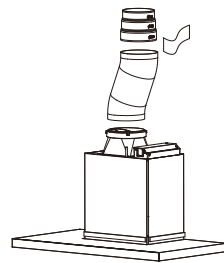

Fig. 10
**5b. Ducted mode (Fig 10.)**
Fit the flexible flue to the duct transition (Fig.10). Use fixing to secure flexible pipe to the duct transition.